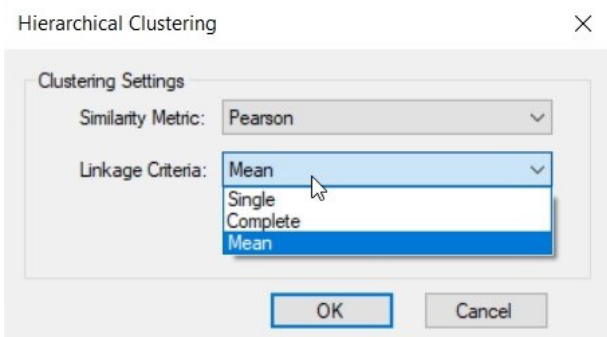

Figure 7-36: Linkage Criteria Options
3. Select Linkage Criteria. Linkage criterion determines the distance between sets of observations as a function of the pairwise distances between observations. Some commonly used linkage criteria between two sets of observations A and B are available (Figure 7-36) and are summarized in “Hierarchical Clustering Formulas” on page 155.